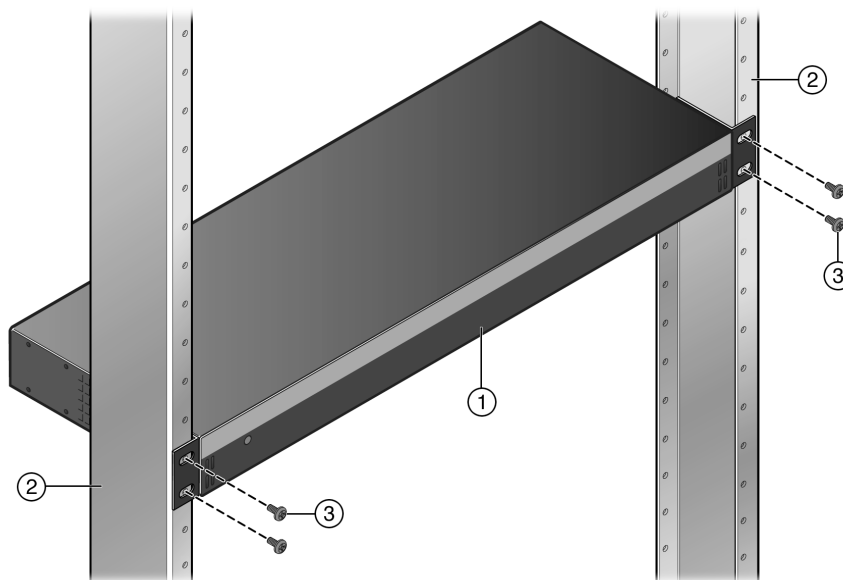

Figure 31: Fastening the RPS-500p to the Rack
- 2 With the rack-mounting brackets attached, position the RPS-500p between the vertical rack rails of the 19-inch rack as shown in Figure 31.